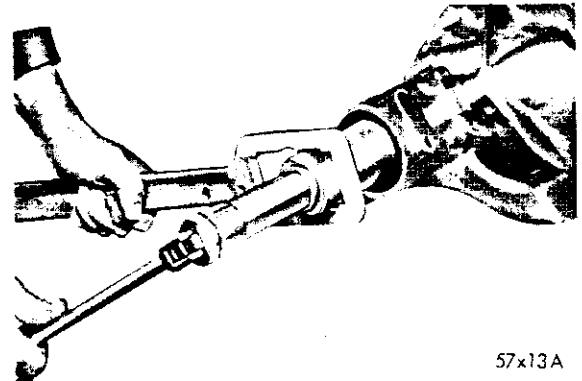

Fig. 18—Seating Bearing Cups in Carrier with Tool C-758
(2) Place the front pinion bearing over the main screw followed by compression sleeve SP-535, centralizing washer SP-534, and main screw nut SP-533. Hold the compression sleeve with companion flange holding Tool C-3281 and tighten the nut (Fig. 18), allowing the tool to rotate as the nut is being tightened in order not to damage the bearings or cups. **Do not remove tool after installing the cups.**